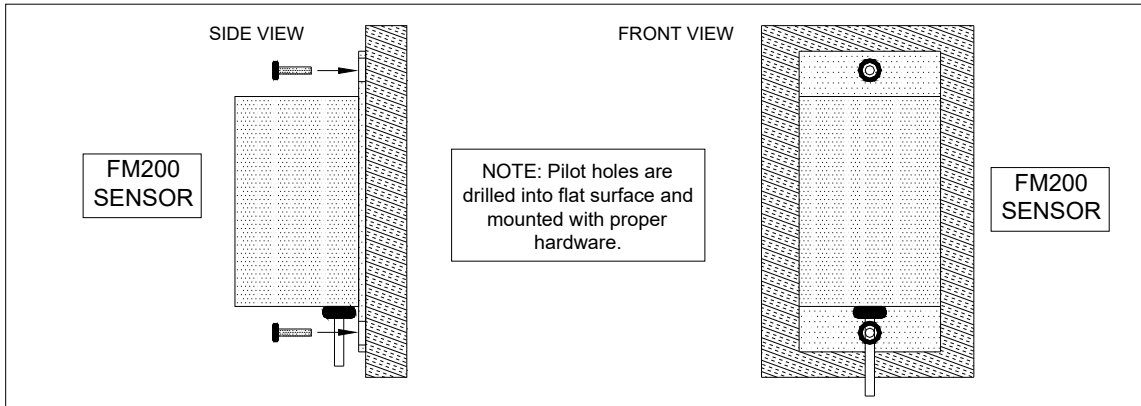

Figure 5
- Refer to mounting holes located at each end of sensor housing (Fig. 5)